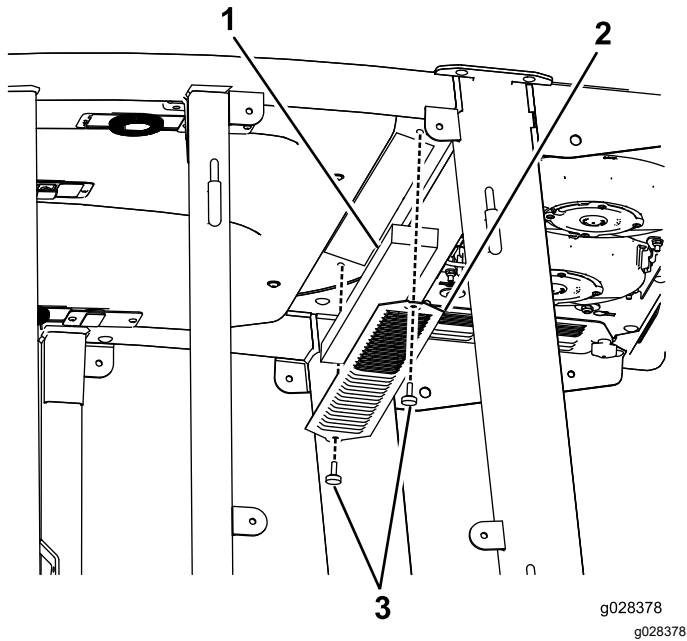
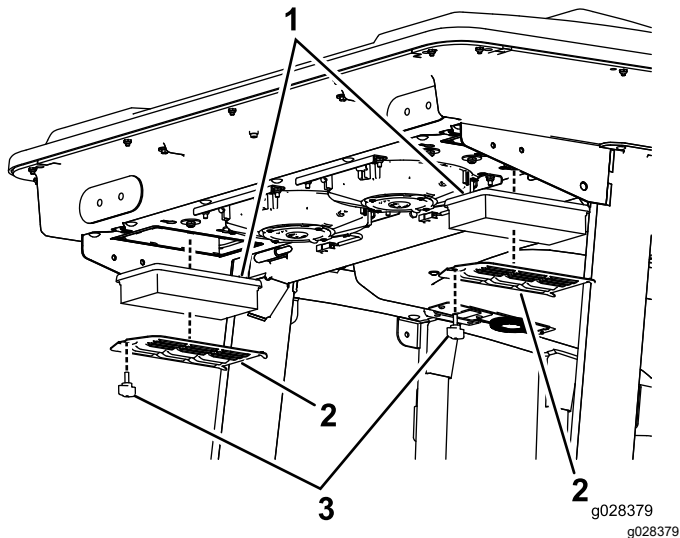

Figure 133
Figure 134
1. Remove the thumb screws and the grates from both the in-cab and rear cab air filters (Figure 133 and Figure 134).